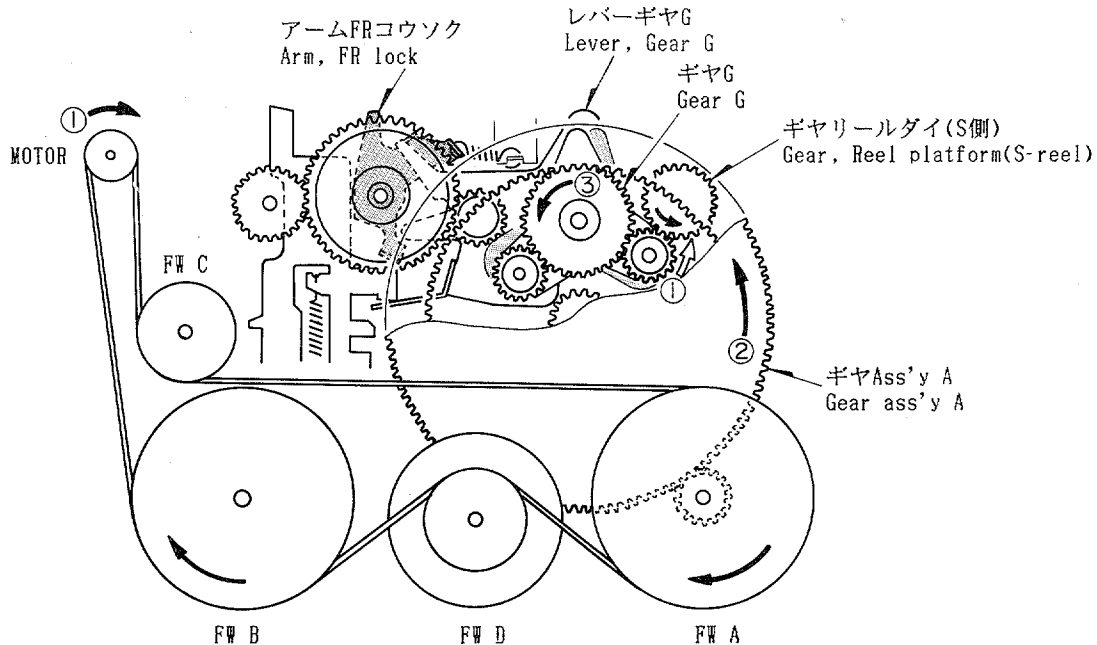

Fig. 8
- 1) REWボタンを押すとモーターが矢印①方向へ回転します。(Fig. 8 参照)
- 2) ギヤA Ass'yが矢印②方向へ回転し、ギヤGをギヤA Ass'yの内側のギヤで矢印③方向へ回転させます。(Fig. 8, 9 参照)
- 3) ギヤGは2個のギヤDを回転させます。ギヤDのC-SPギヤDのフリクションで、レバーギヤDは矢印④方向へ作動します。(Fig. 8, 10 参照)
- 1) Pressing the REW button rotates the motor in the direction of arrow ①. (See Fig. 8)
- 2) This action rotates the gear A ass'y in the direction of arrow ②, engaging the inner-side gear of the gear A ass'y and the gear G. Thus, the gear G starts rotating in the direction of arrow ③. (See Fig. 8 & 9)
- 3) The gear G then rotates the both of the gear D, moving the lever, Gear D in the direction of arrow ④ through friction of the C-spring, Gear D. (See Fig. 8 & 10)